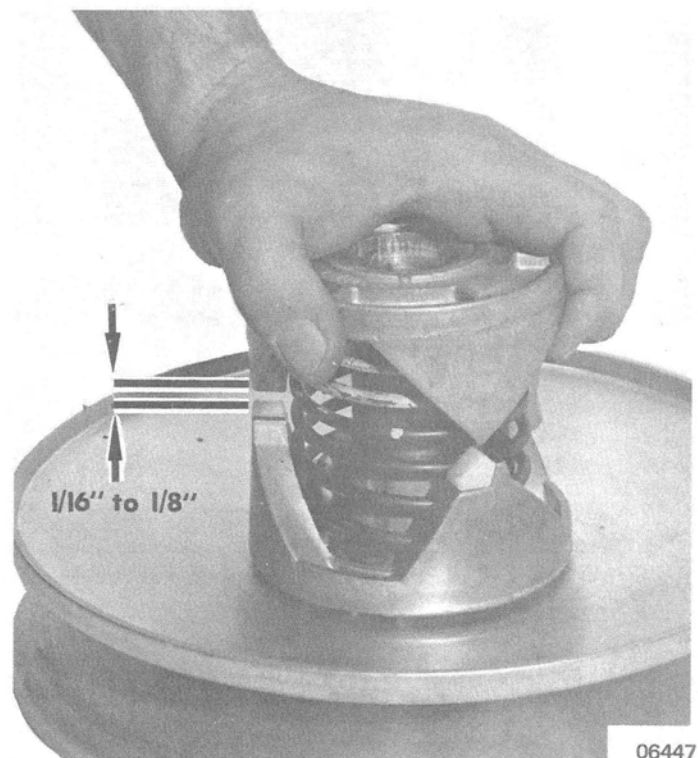

Figure 5. Installing Torque Bracket
5. Compress spring until  $1/16''$  to  $1/8''$  clearance is obtained between ramps. (Figure 5)